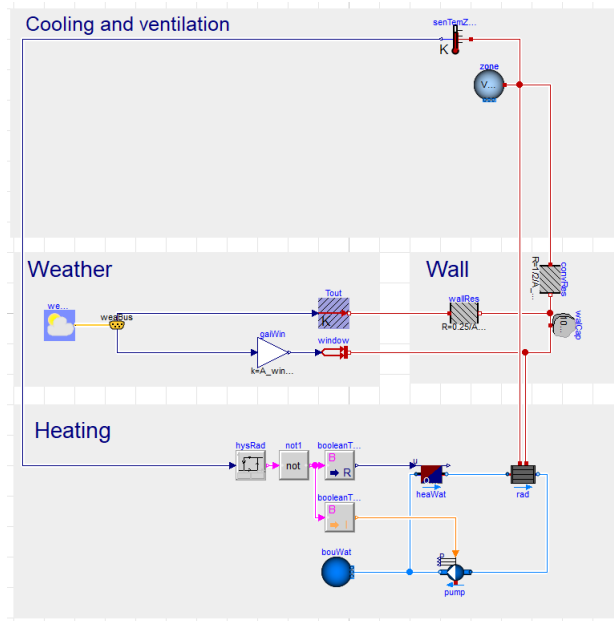

Figure 7: Simple house model with heating controller model.
**Connection instructions** The heater modulation level should be set to one when the heater is on and to zero otherwise. Your model should now look like Figure 7.